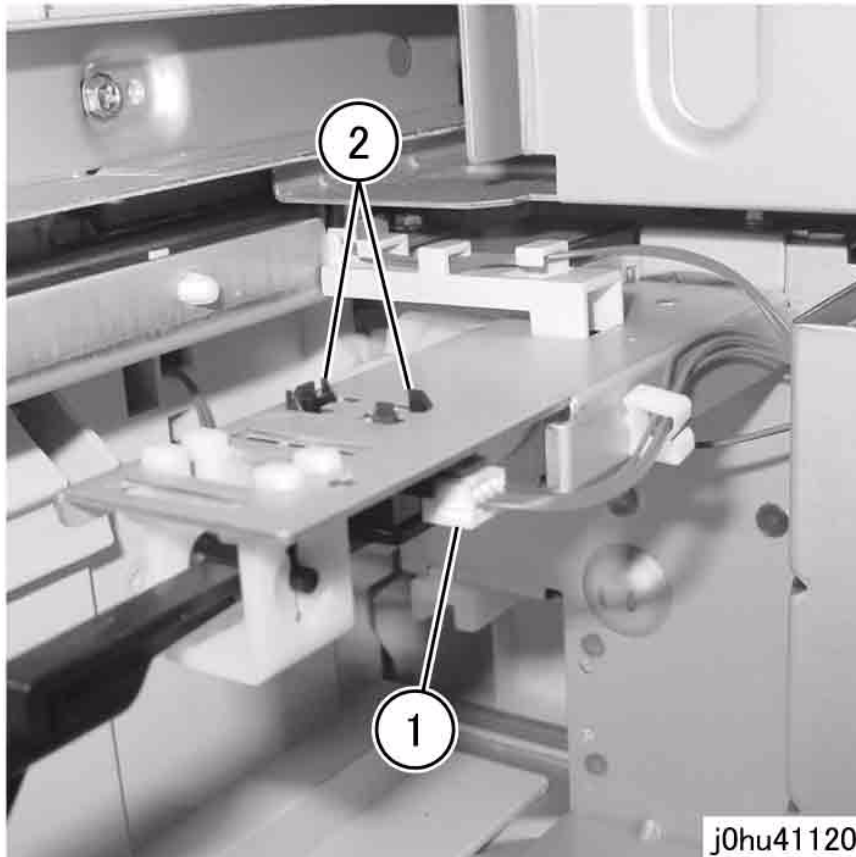

Figure 1 Remove Tray 2 No Paper Sensor
3. Remove the Tray 2 No Paper Sensor (Figure 1).